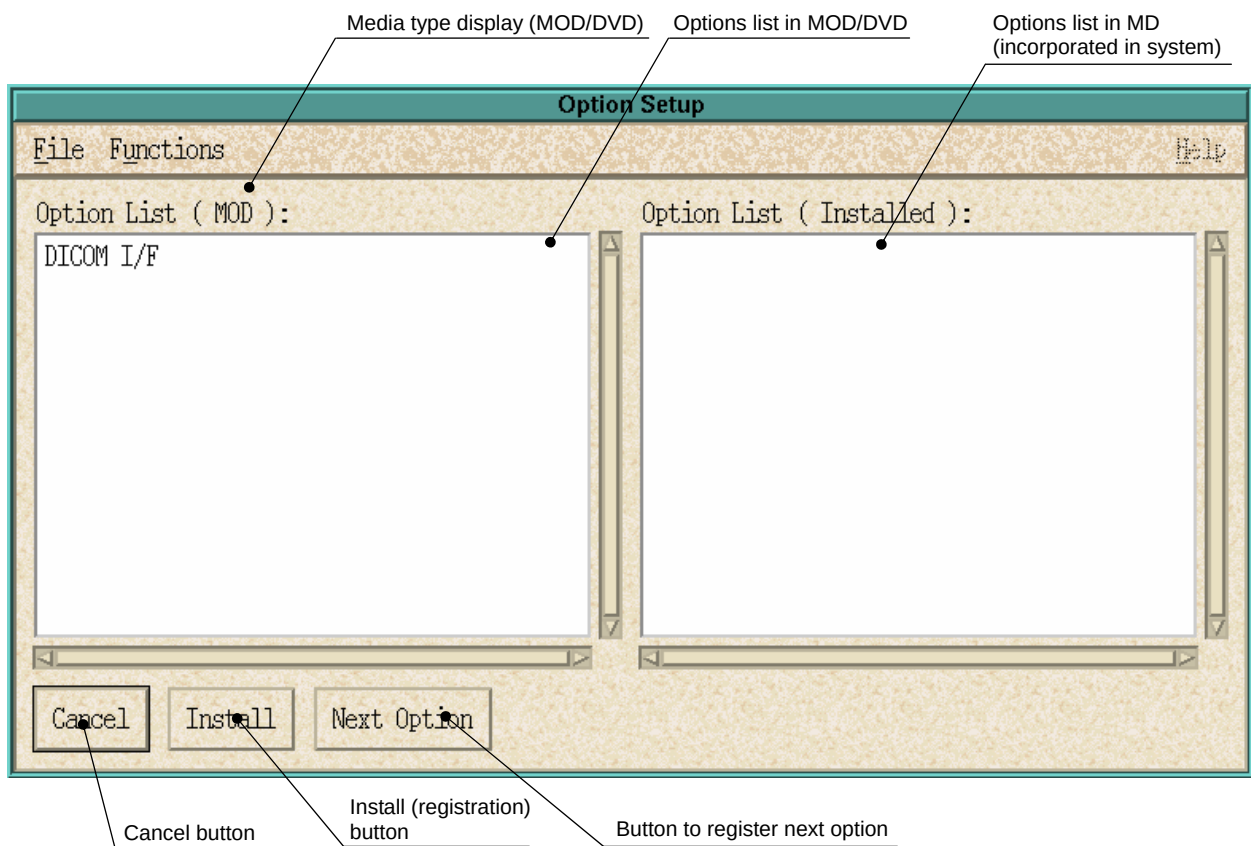

Fig. 2.3-1 Option Software Registration Screen
The display screen and its function names are shown in Fig. 2.3-1
- (1) Make sure that the option software MOD/DVD is set in the drive and the options list in the MOD/DVD is displayed in the left area on the option software registration screen (Fig. 2.3-1). If the list is not displayed, insert the option software MOD/DVD again into the drive and click [Next Option] button to check the display.
- (2) Click [Install] button to start the installation.